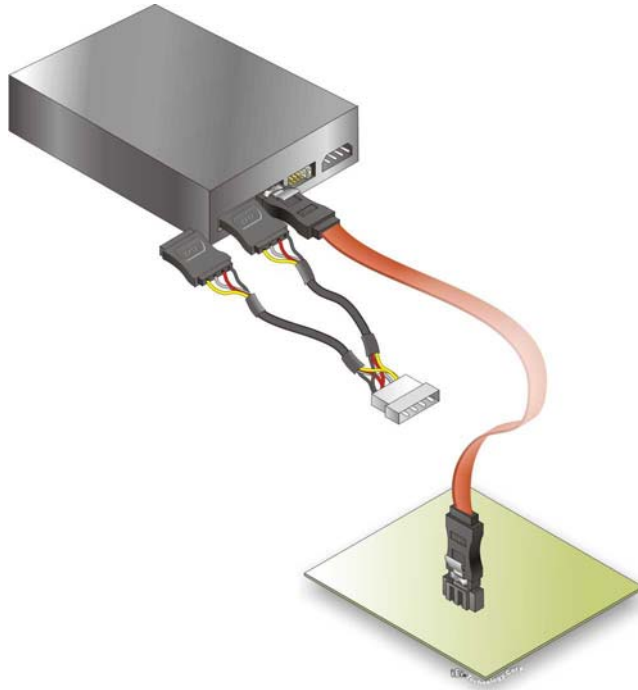

Figure 4-10: SATA Power Drive Connection
- Step 3:** **Connect the cable to the SATA disk.** Connect the connector on the other end of the cable to the connector at the back of the SATA drive. See **Figure 4-10**.
- Step 4:** **Connect the SATA power cable.** Connect the SATA power connector to the back of the SATA drive. See **Figure 4-10**.